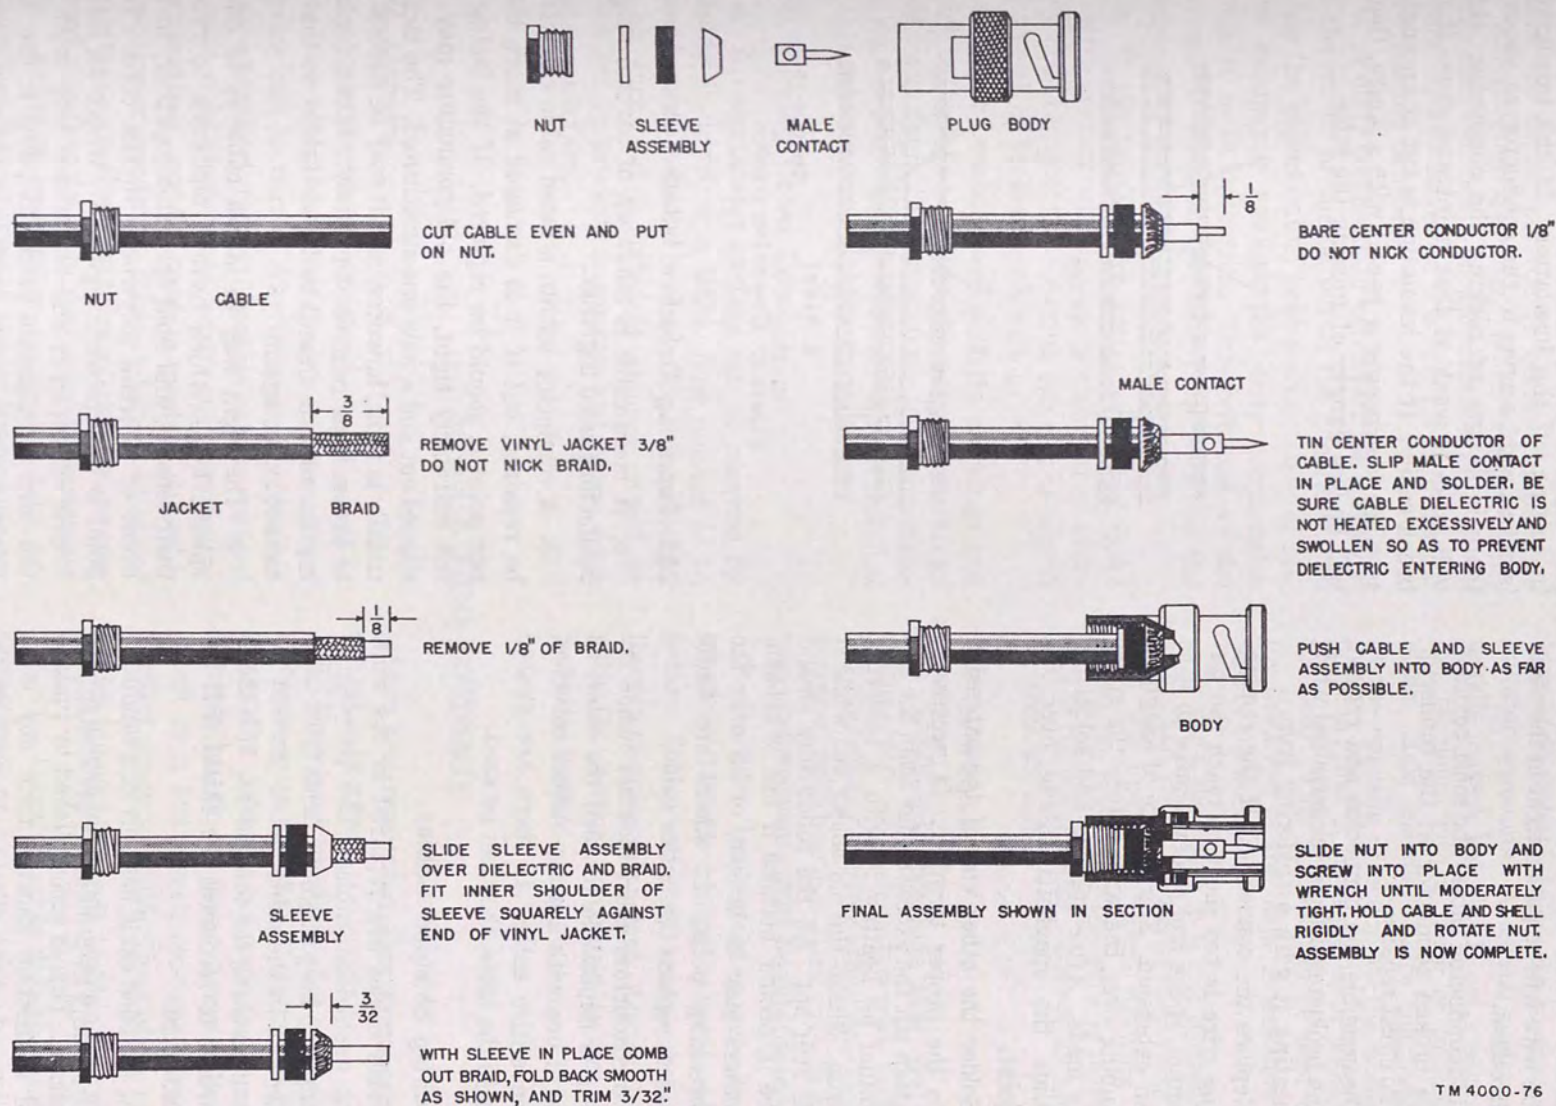

Figure 86. Attaching plug to coaxial cable.
c. Sometimes it will be necessary to replace a plug on a coaxial cable. Follow the step-by-step procedure shown in figure 86. Take special care in cutting off the insulation. If the insulation is cut at right angles to the conductor as shown, there is danger of nicking the conductor; this will make it weak at that point and cause it to break easily. If the insulation is cut at an angle, as when sharpening a pencil with a knife, there will be less danger of nicking the wire.